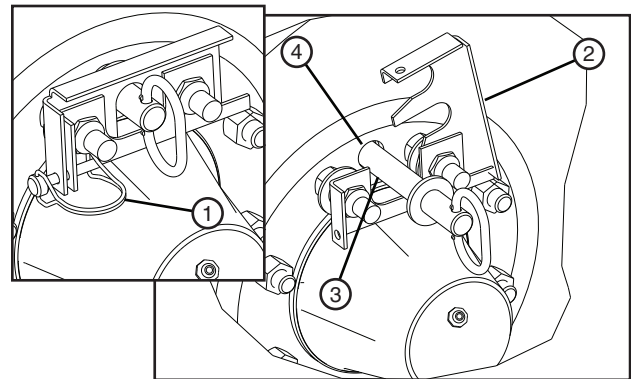

Figure 77-2 1. Lynch Pin 2. Retainer Clip 3. Torque Pin 4. Hub Torque Pin Receiver
4. Leave the torque pin installed in the hub torque pin receiver on the pivot point cart wheel so that this wheel will not rotate (fixed). See figure 77-2.
5. Remove the torque pin from the hub torque pin receiver on the other cart wheel so that this wheel will rotate. See figure 77-2.